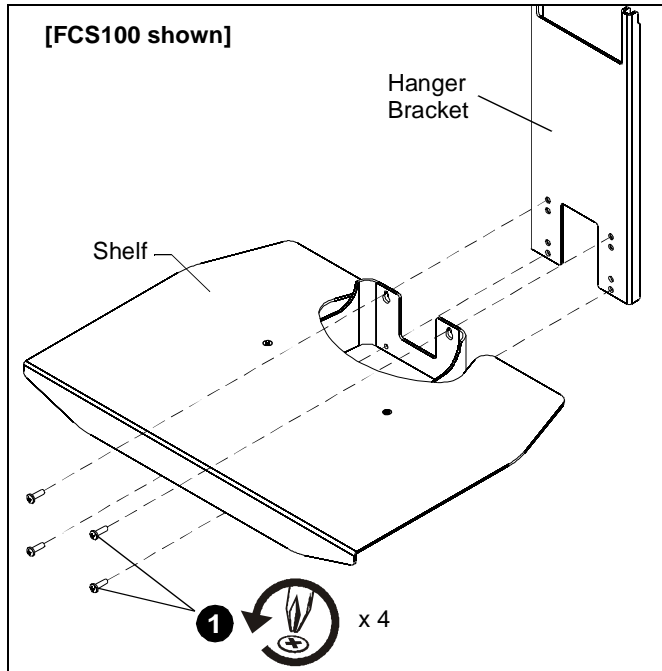

Figure 1
1. Remove and save four Phillips screws from existing shelf accessory or speaker bracket. (See Figure 1)
2. Remove shelf or bracket from hanger bracket of shelf accessory. (See Figure 1)